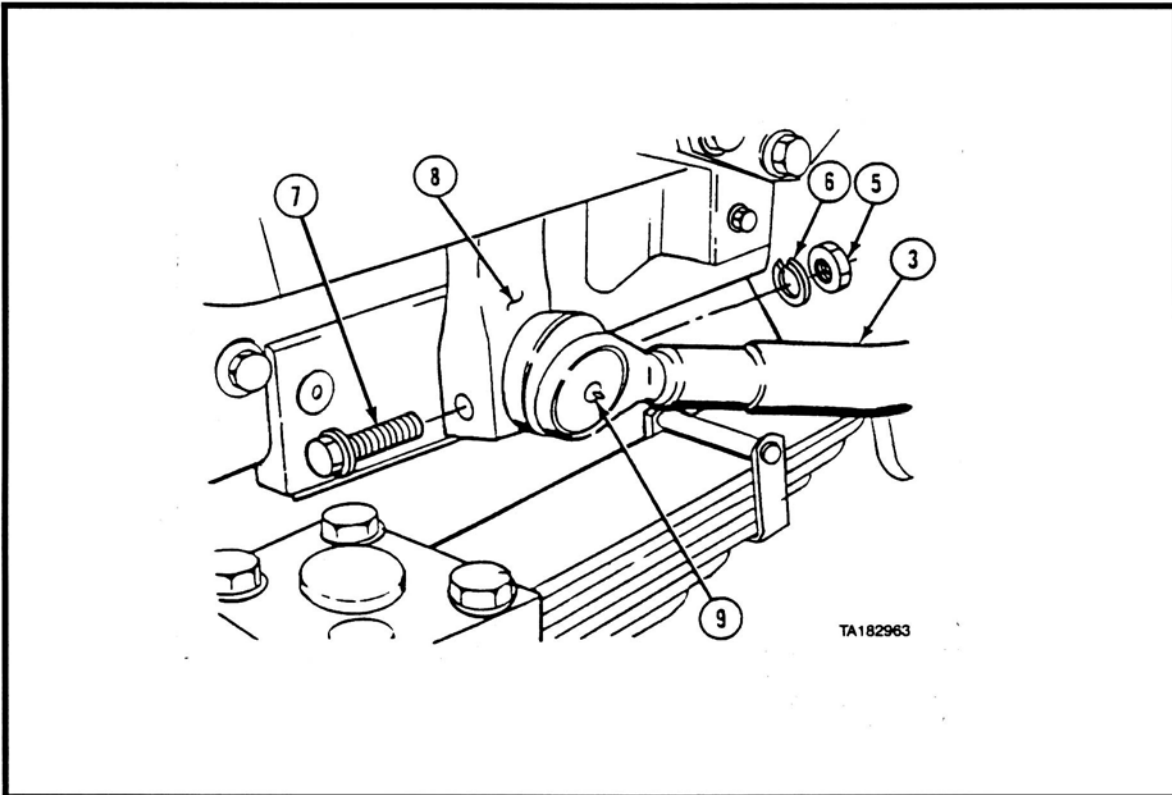

Figure 29a. Remove the drag link from the pitman arm on the steering box.
- a. Remove the nut (Item 5 in Figure 29a), washer (6), and screw (7), and spread the slot in the lower end of the pitman arm.